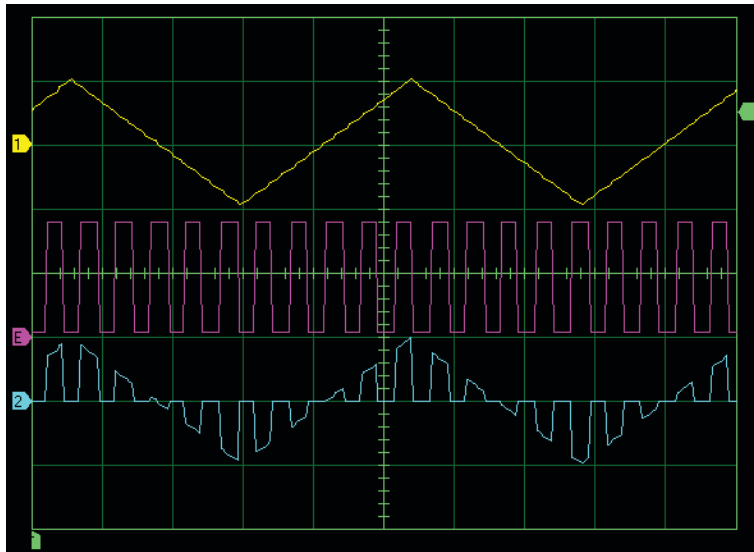

Figure 2-7. Message signal, 10 kHz sampling signal and PAM signal.
- Show the Oscilloscope (click  in the toolbar or choose *Instruments ▶ Oscilloscope*). Figure 2-7 shows an example of settings and what you should observe.